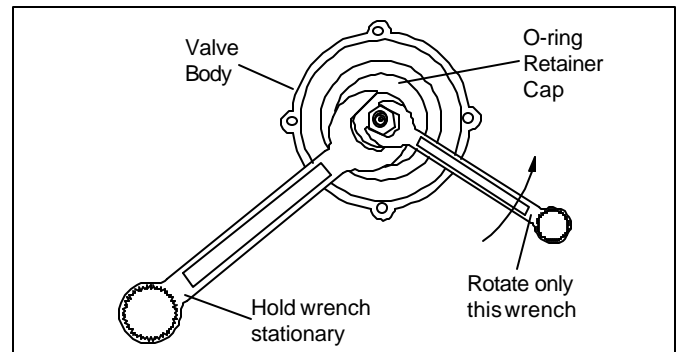

Figure 13 - Top Locknut Removal Method
- 5) Put a wrench on the flats of the O-ring retainer and another wrench on the top locknut (Fig. 13). Hold the retainer in place to prevent it from rotating while backing off and removing the top locknut.
9) Install the new O-ring retainer and secure it with the top locknut. Take care to prevent rotation of the retainer using two wrenches as shown in Figure 13.